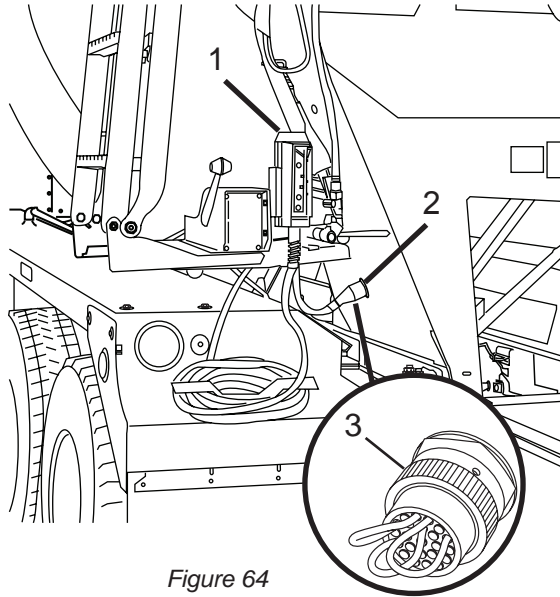

Figure 64
If the optional rear pendant (Figure 64, Item 1) is lost, or becomes damaged or faulty, a jumper plug (Figure 64, Item 3) must be installed in the rear pendant socket to allow operation of control functions from the cab control box.
2. Disconnect the rear pendant harness connector (Figure 64, Item 2) from the rear pedestal.
3. Install a jumper plug (Figure 64, Item 3) into the rear pendant harness connector. Purchase the jumper plug from [www.streetsmartparts.com](http://www.streetsmartparts.com) or by calling Revolution Parts at (855) 202-6491.